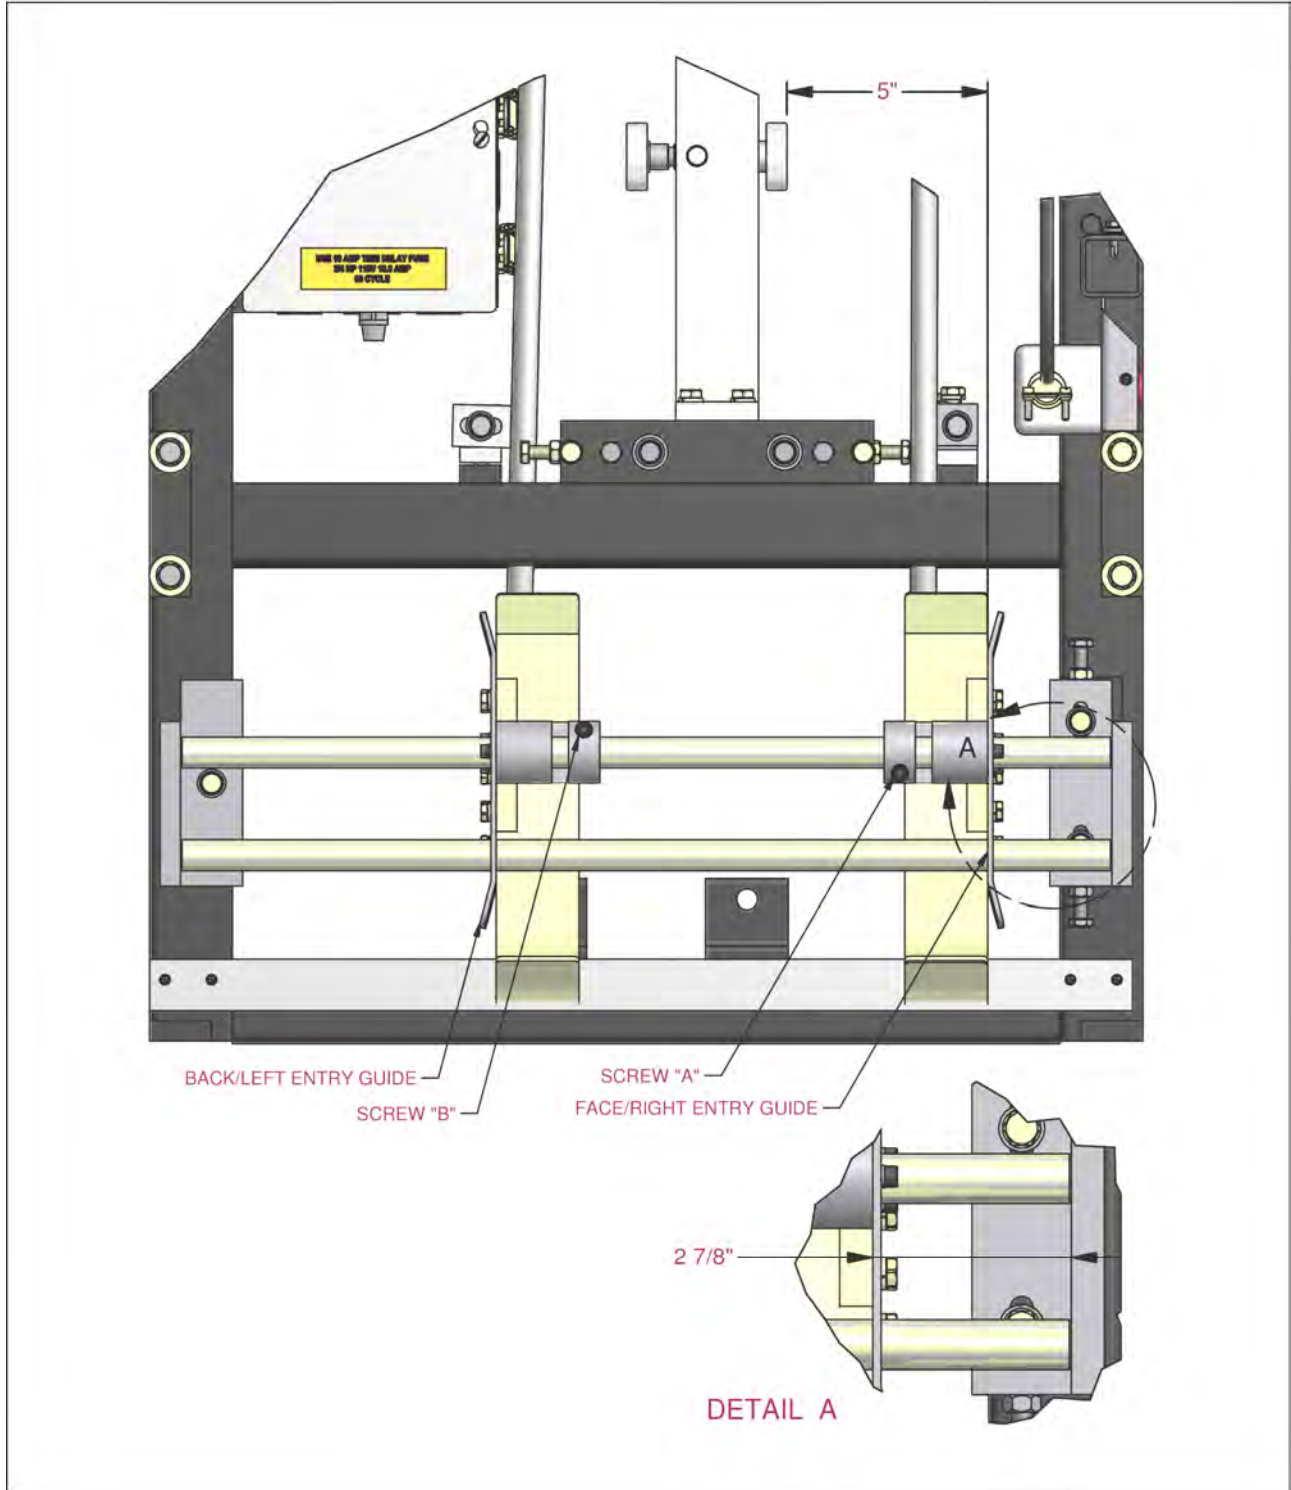
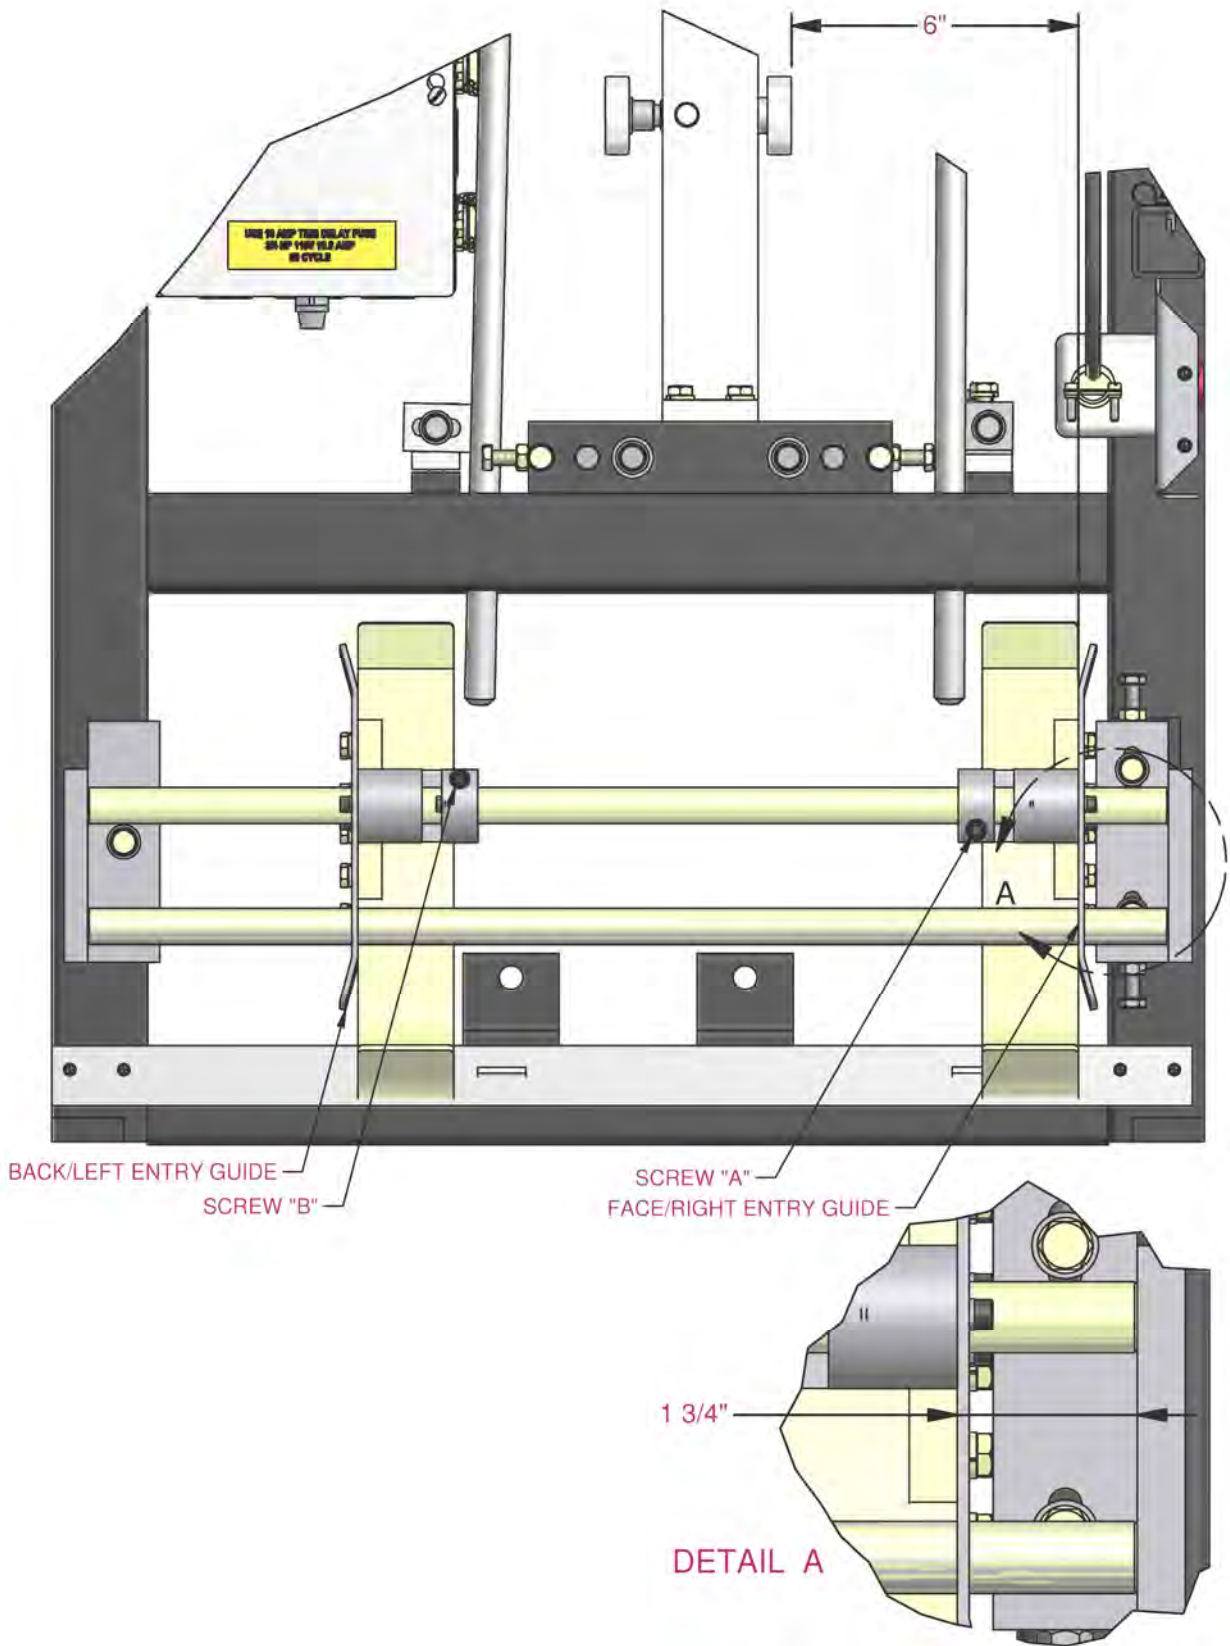
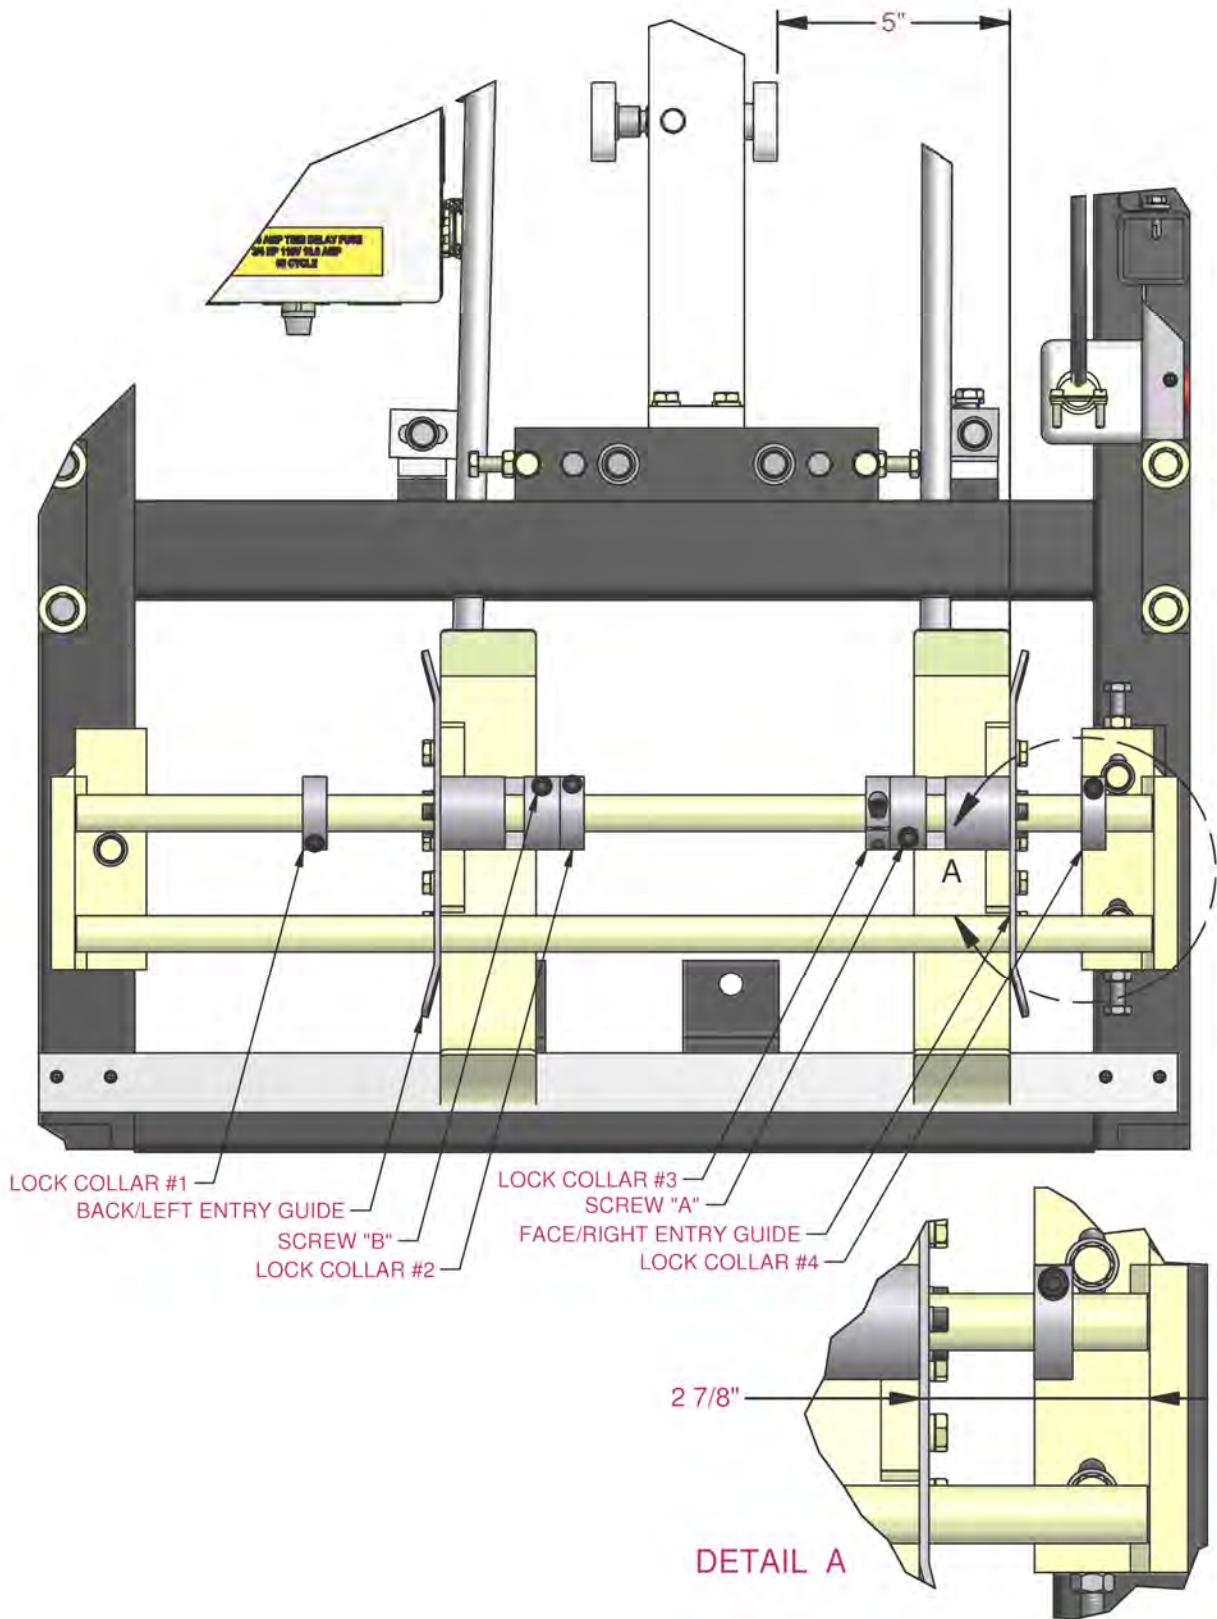
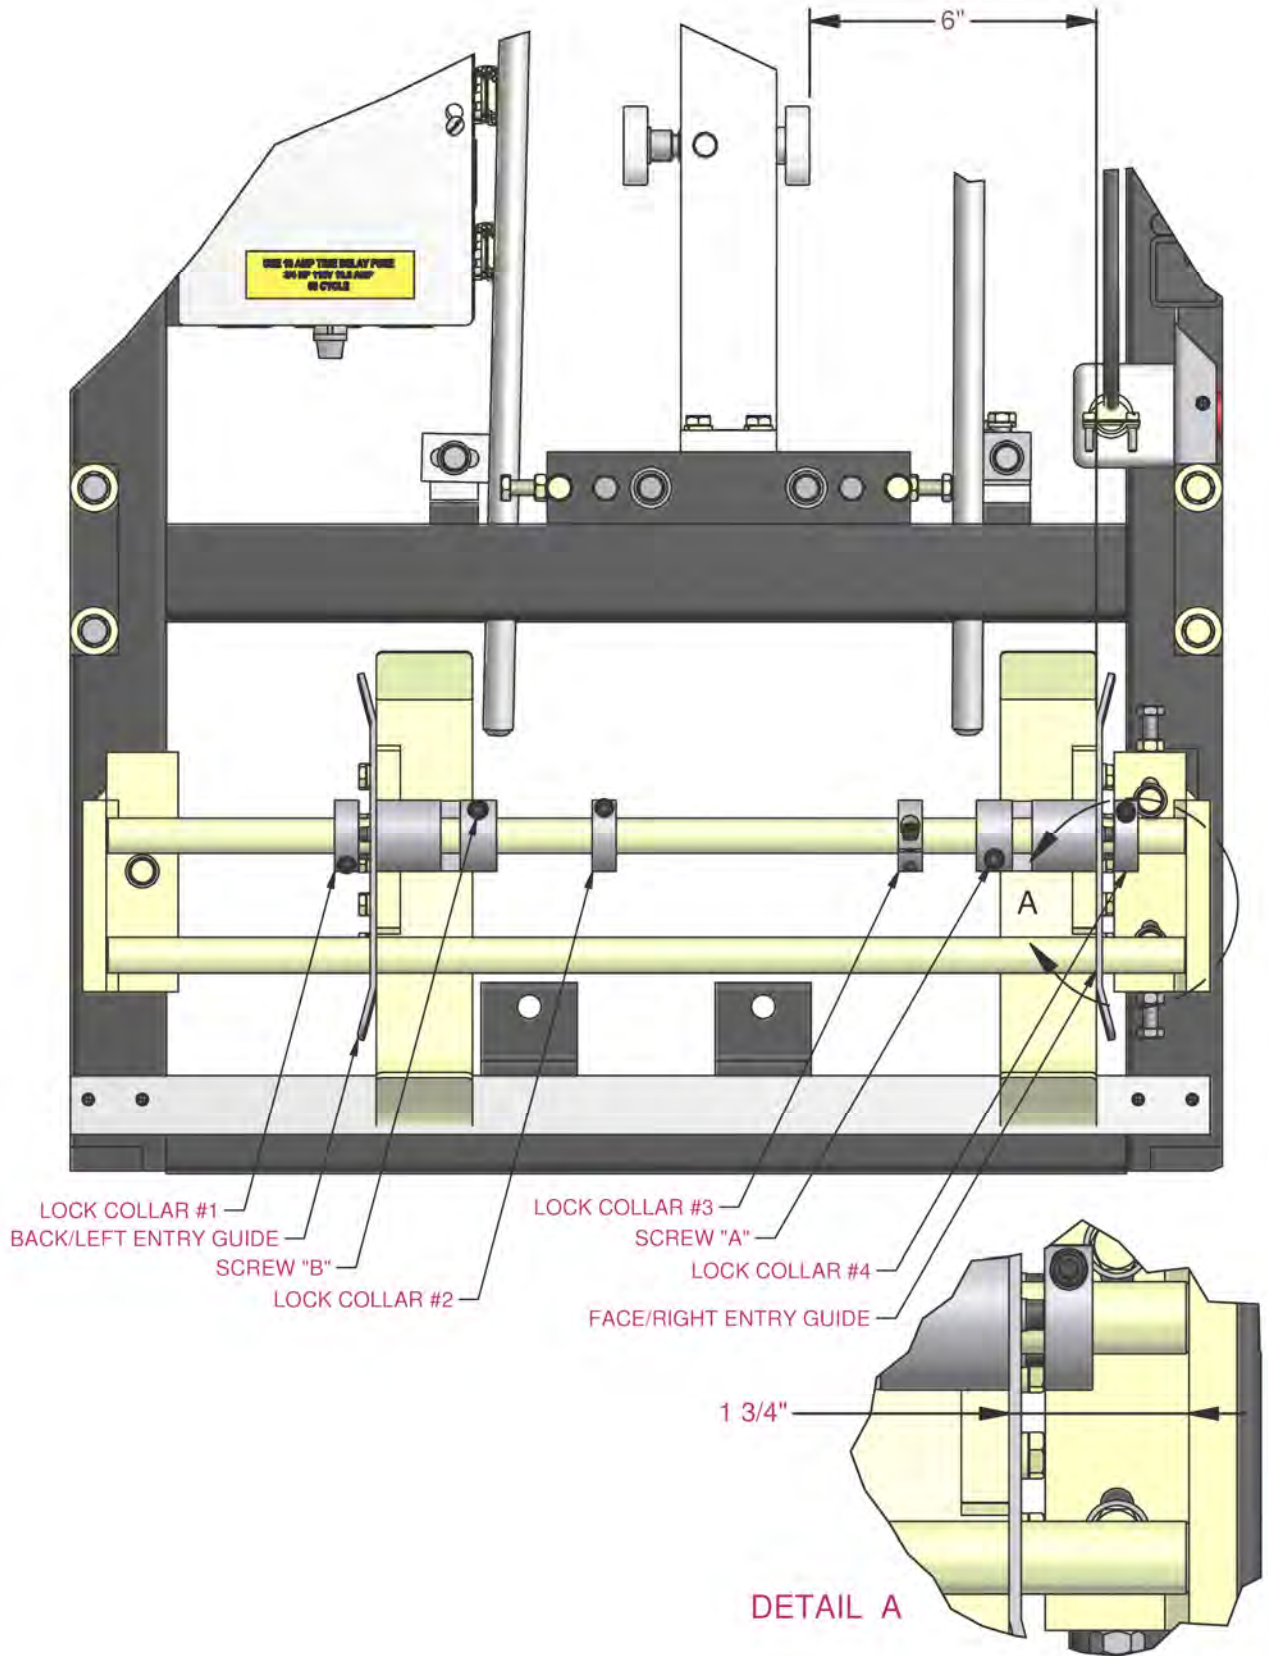

Figure 15: MG5 Entry Guide Setup
Figure 16: MG6 Entry Guide Setup
Figure 17: M56 Entry Guide Setup for 5"
Figure 18: M56 Entry Guide Setup for 6"
(Figure 15 - Figure 18)
1. Before moving the face/right entry guide, measure the distance between the face/right entry guide and the entry guide support shown as 2 7/8" in Figure 15 for the MG5 and 1 3/4" in Figure 16 for the MG6. This will give a reference point from which to start and a point to return to if the guide is moved in the wrong direction.
The stop collars should not be moved unless the lip needs to be increased or decreased. Before moving the stop collars, measure the distance between the face/right entry guide and the entry guide support as shown as 2 7/8" for the 5" position in Figure 15 and Figure 17, as well as, 1 3/4" for the 6" position in Figure 16 and Figure 18. This will give a reference point from which to start and a point to return to if the guide is moved in the wrong direction.